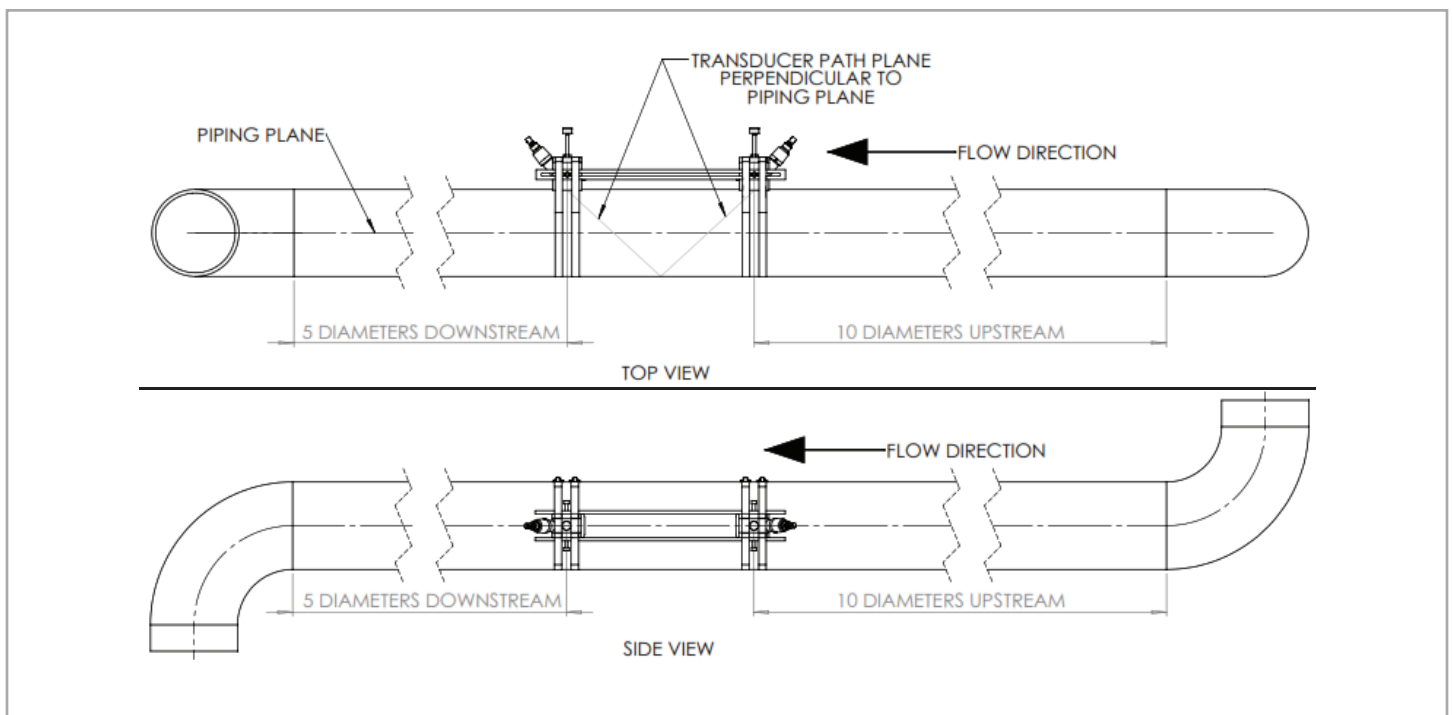

Figure 7: Recommended installation location and orientation
1. Position the clamp-on fixture(s) and transducer system so that there are at least 10 pipe diameters of straight, undisturbed flow upstream and 5 pipe diameters of straight, undisturbed flow downstream from the measurement point (see Figure 7 below). Undisturbed flow means avoiding sources of turbulence in the fluid such as valves, expansion joints, elbows and other protruded mechanical components. For location after a set of out of plane double elbows, longer upstream length is highly recommended.